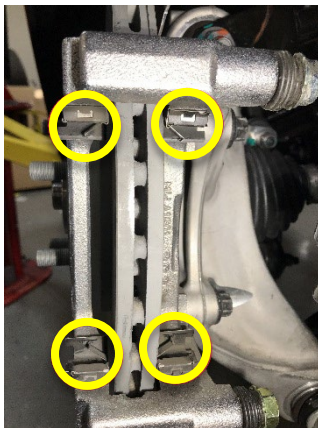

Figure 23 (Model 3 and Model Y abutment springs/clips)
30. Install the abutment springs/clips or shims (as applicable) into the rear LH carrier (Figures 23 and 24).